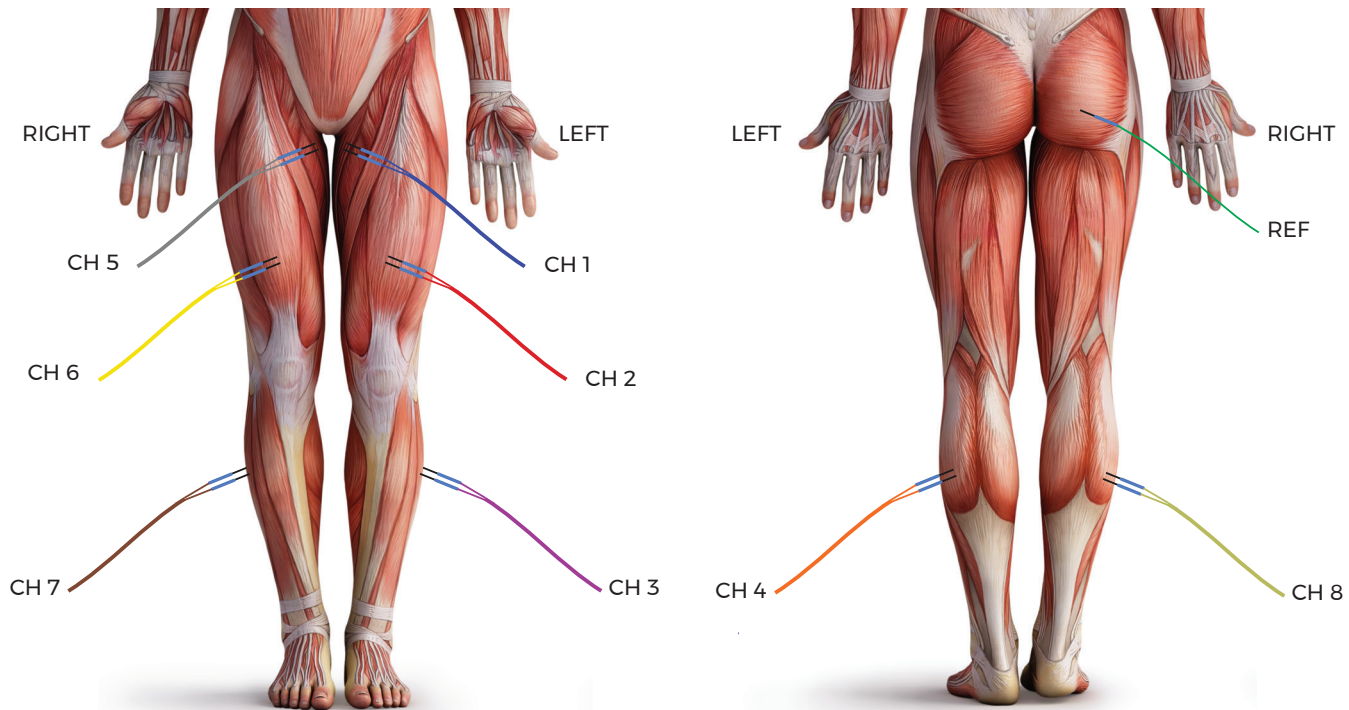

Figure 18.1: Suggested electrode placement for monitoring of pelvic repairs.
2. Look at Figure 18.1 (page 40) to decide which nerve roots are to be monitored.